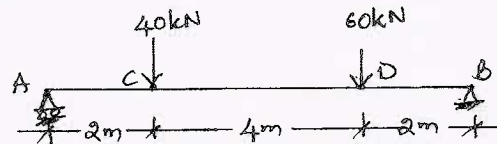

Fig.Q.4(b)
- b. For the simply supported beam loaded as shown in Fig.Q.4(b). Taking  $E = 200\text{GPa}$ ,  $I = 7 \times 10^8 \text{ mm}^4$ . Find the magnitude and location of Max. deflection in the beam. Use Conjugate Beam Method. (12 Marks)